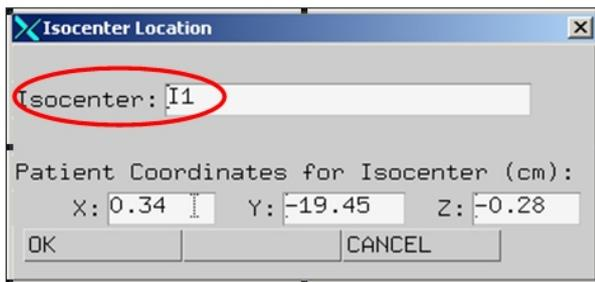
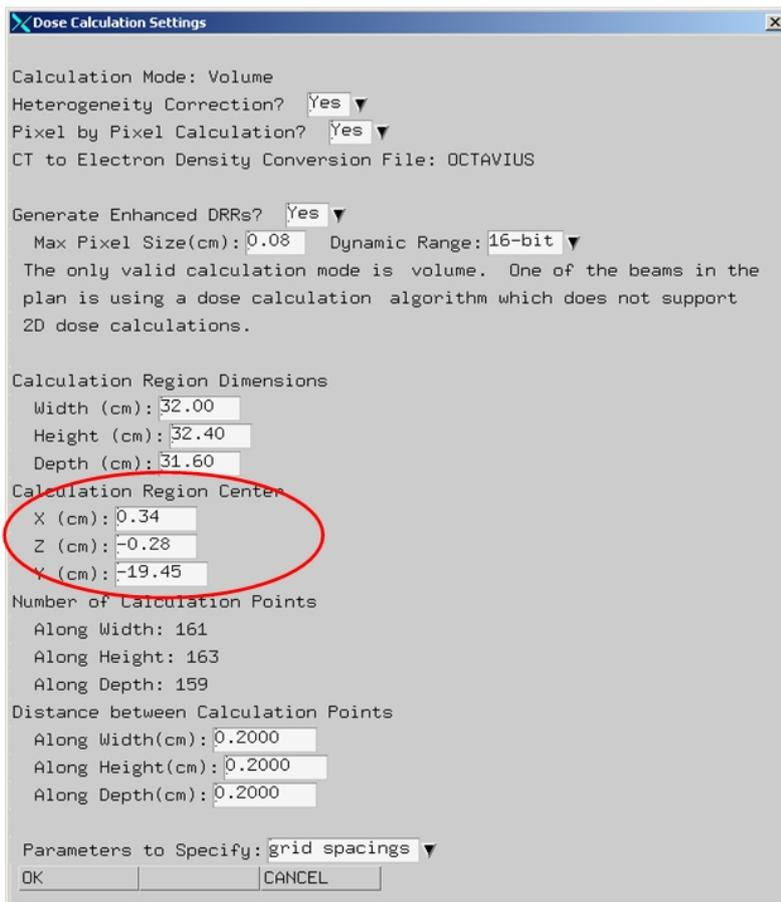

Figure 7 - Setting the right isocenter location
Figure 8 - Setting the "Calculation Region Center" in the "Dose | Calculation | Settings" dialog box
- Set the isocenter location of the plan being recalculated for QA aims (Figure 7);
- Set the "Calculation Region Center" (Figure 8) according to the coordinates of the above isocenter point (Figure 7). Doing so, also the geometric center of the calculated matrix will be exactly in the same place of all the field isocenters, already positioned in the effective measurement point of the detector, for instance the PTW 2D-ARRAY. In this way, the user is sure to avoid misplacements during the following comparison inside PTW VeriSoft between calculated and measured matrix.